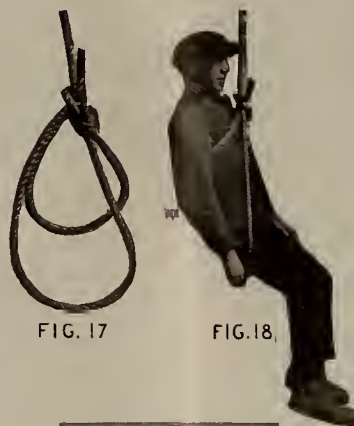

FIG. 17      FIG. 18
**Safety Sling**—(See illustrations in center of page). This is a modification of the knot described in Figures 15 and 16, and is of great use where it becomes necessary to send a man aloft to remove a helpless man or for similar emergency purposes. Make a double loop bow-line knot on a bight, but before pulling tight slip the loop of one of the large bights through the knot, thus forming one large and one small loop—the former to sit in and the latter to pass around the body under the arms, Figures 17 and 18.